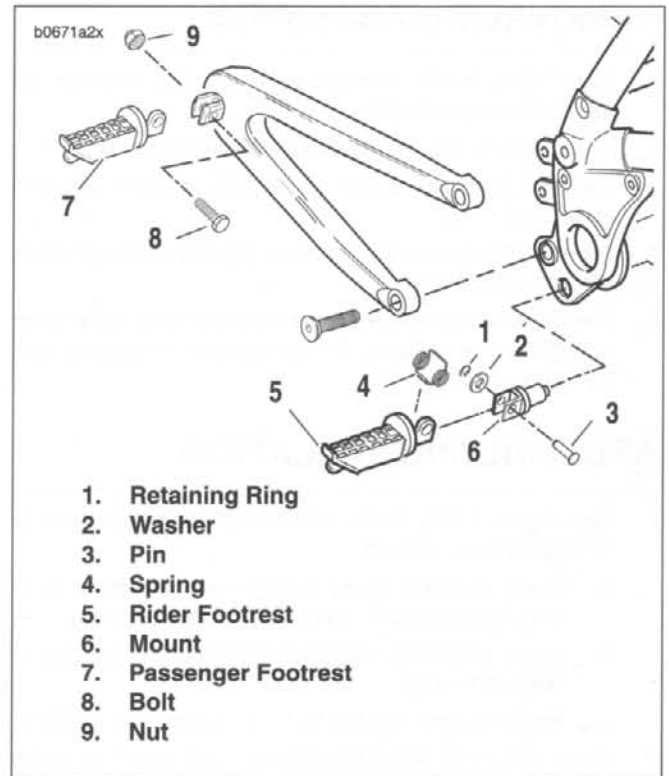

Figure 2-148. Footrests (2000 Models)
1. See Figure 2-148. To remove rider footrest.
- a. Remove retaining ring (1) and washer (2) from pin (3).
- b. Hold hand over spring (4) and remove pin, spring and footpeg (5) from mount (6).
2. If necessary, detach passenger footrest (7) by removing bolt (8) and nut (9) from frame mount.
- a. See Figure 2-148. Apply LOCTITE THREAD-LOCKER 243 (blue) to footrest bolts (8).
- b. Secure footrest to frame mount with bolt (8) and nut (9). Tighten to 10-15 ft-lbs (13.6-20.3 Nm).
- a. Position spring (4) on mount (6) with thick side of spring inboard.
- b. Install pin (3) through spring (4), mount (6) and footrest (5).
- c. Install washer (2) and retaining ring (1) to pin (3). Make sure retaining ring engages groove in pin.